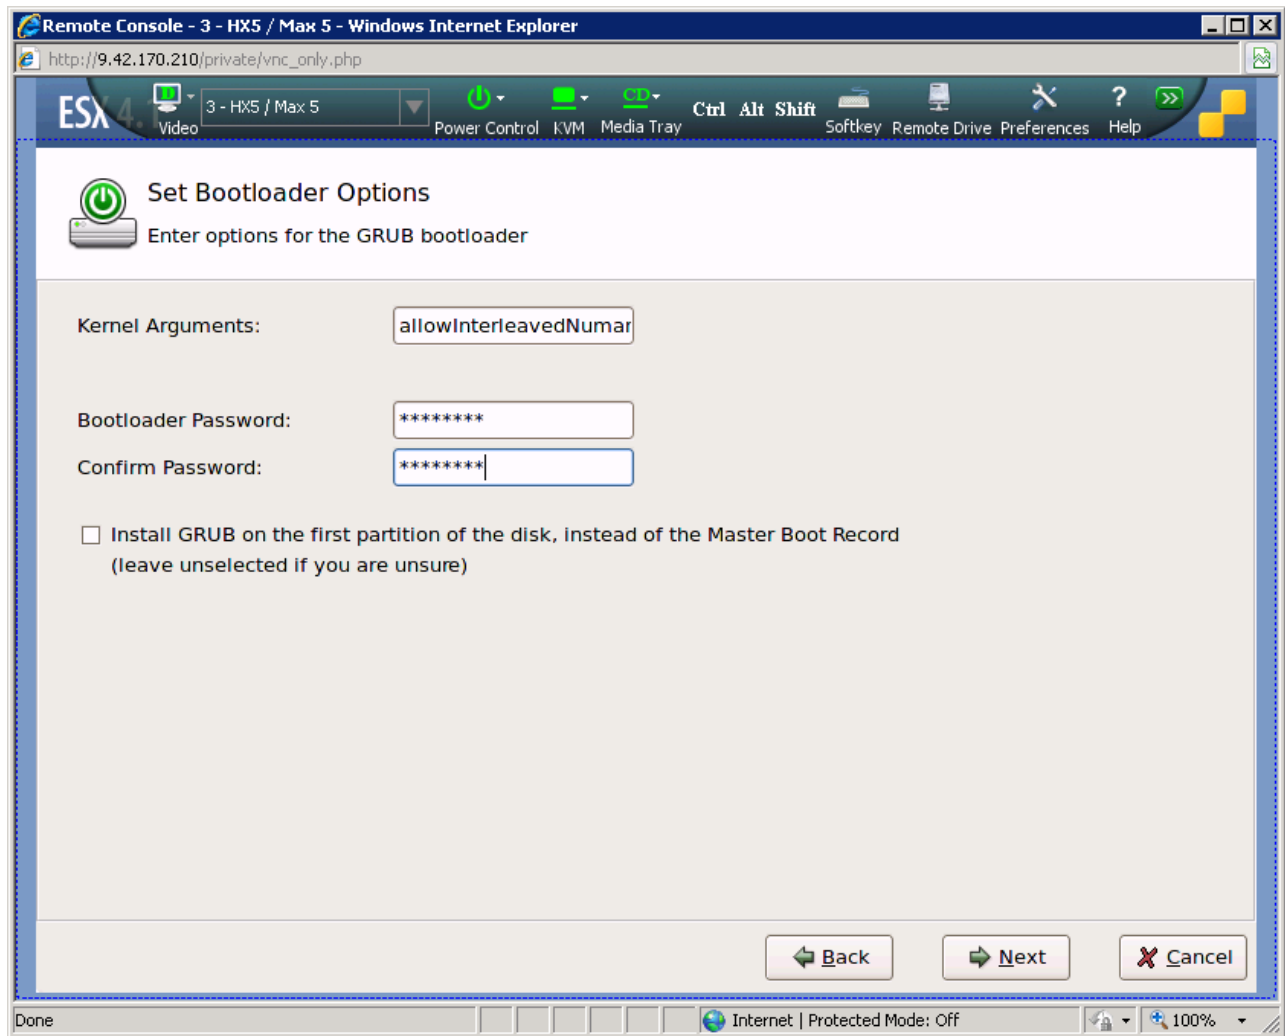

Figure 8-61 Editing the boot loader options
6. Proceed through the installer to the Set Boot loader Options page and type the following parameter in the Kernel Arguments text box, as shown in Figure 8-61 on page 426: